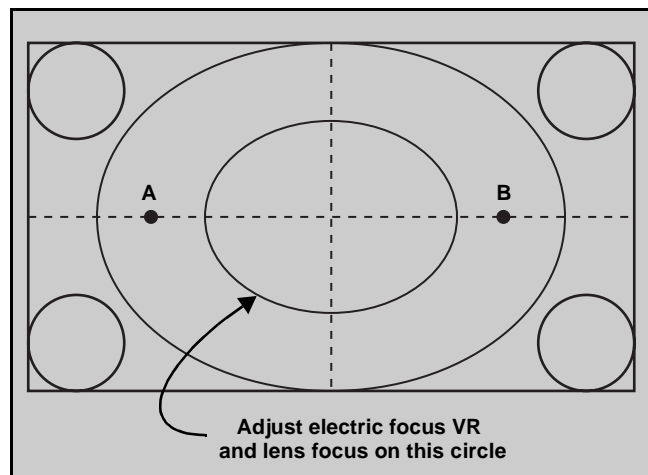

Figure 23. Lens focus adjustment
2. Cover the green and blue CRTs, projecting red only. The electrical focus controls are located on the front (Figure 23). Adjust the red focus VR for best focus as indicated in Table 4).